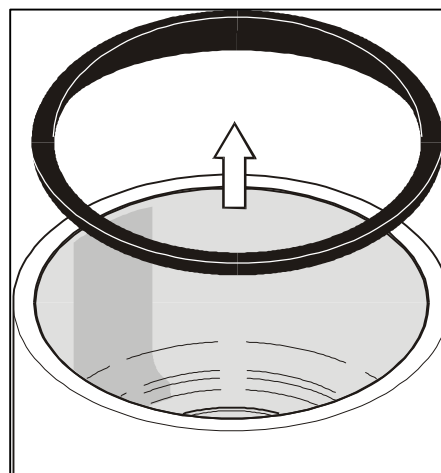

Figure 11
Press the gasket (227) inward all around and remove it from the chamber rim. (Figure 11)